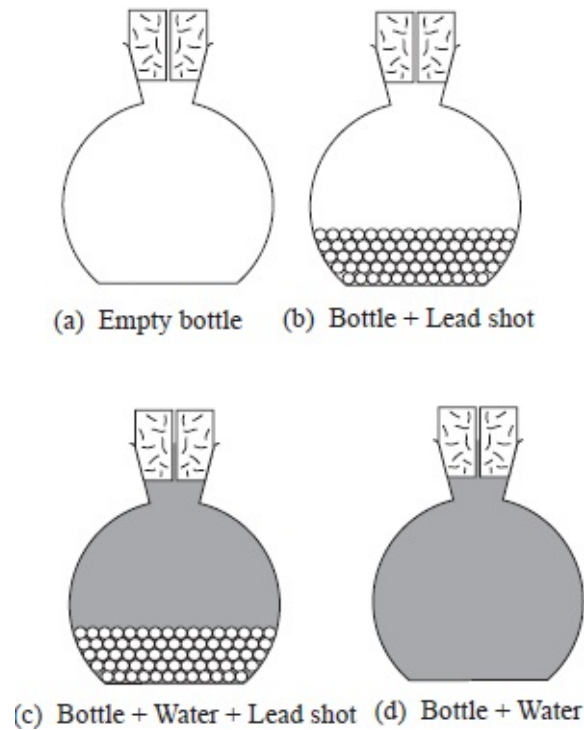

Fig. 2.18: Use of density bottle
- Measure the mass m_1 of a clean dry empty density bottle, see figure 2.18 (a).
- Fill up the bottle with water up to the neck and measure its mass m_3 , see figure 2.18 (c).
- Fill it with water and replace the stopper. Wipe the outside dry and measure the mass m_4 of the bottle filled with water, see figure 2.18 (d).